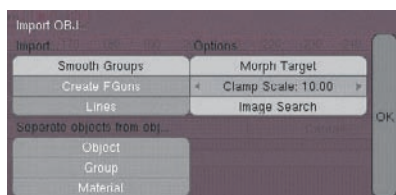

Figure 7.37
10. Open Blender and import the object by choosing `Import > Wavefront (.obj)`. After you have located and selected your palm tree .obj file, a dialog box will appear like the one shown in Figure 7.37. Deselect `Image Search` and click `OK`. You now have your completed palm tree in Blender as shown in Figure 7.38, which you can texture and render as you like. An ngPlant (.npg) file of a palm tree similar to this one, as well as several other sample trees, can be found in the samples directory in your ngPlant installation.